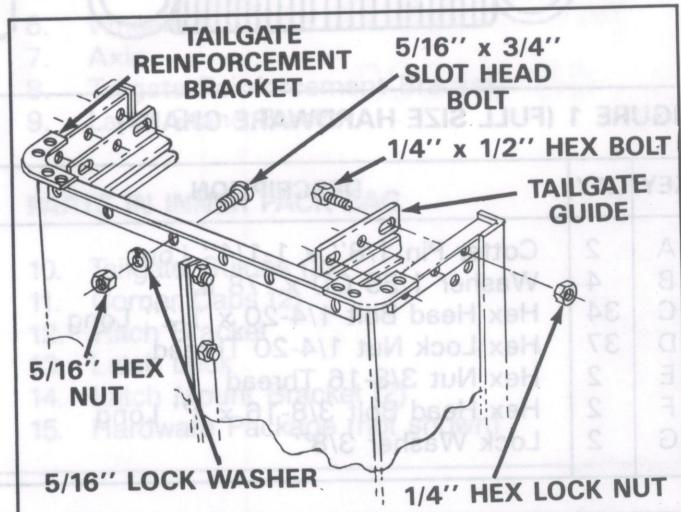

FIGURE 4
- Position the tailgate reinforcement bracket over end of cart. See figure 4.
- Start six $5/16''$ x $3/4''$ slotted screws through bottom of cart and reinforcement bracket (heads of screws to the inside of cart). Secure finger tight with $5/16''$ hex nuts and $5/16''$ lock washers. See figure 4.
- Position the tailgate guides so that the holes line up with reinforcement bracket and cart body. Refer to tailgate guide detail in figure 4.
- Secure tailgate guides with six $1/4''$ x $1/2''$ hex bolts and $1/4''$ hex lock nuts. See figure 4. Tighten only the bolts assembled in steps 7 and 8 at this time. Do not tighten others.